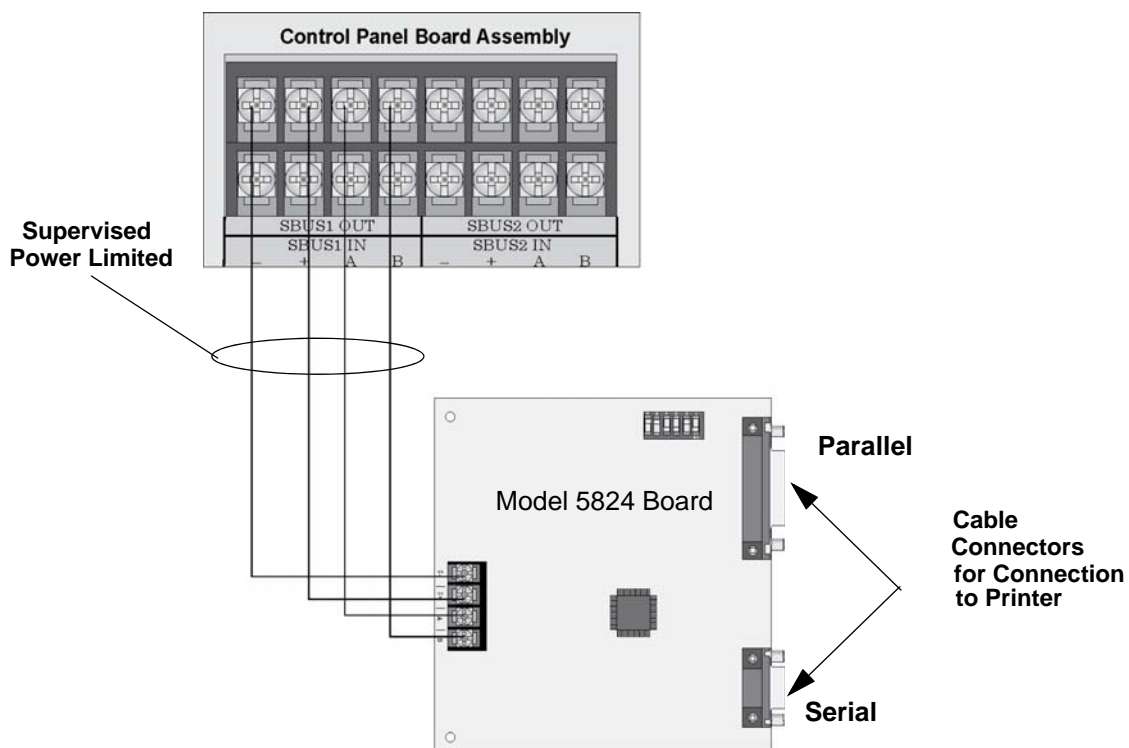

Figure 4-18 5824 Connection to the Panel
2. Connect the 5824 to the panel as shown in Figure 4-18.